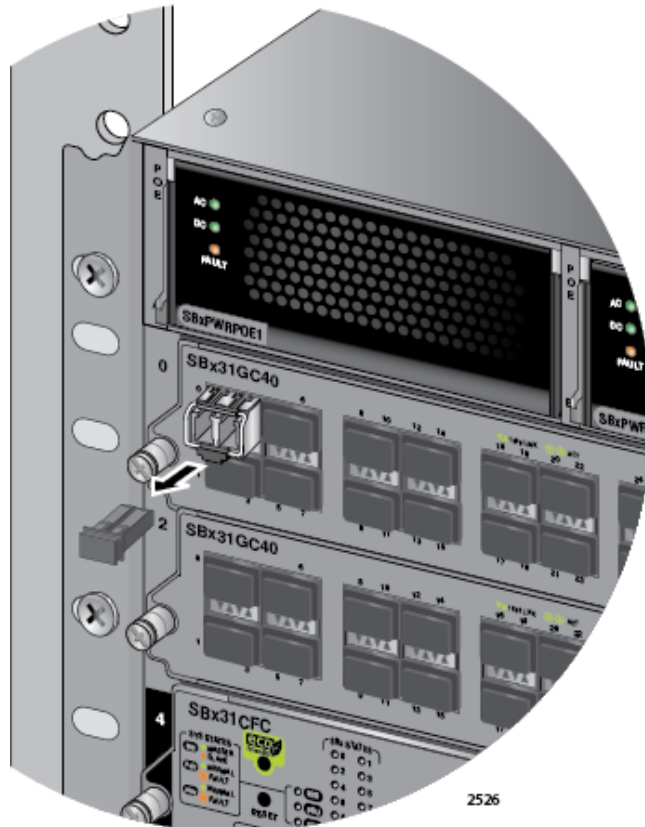

Figure 93. Removing the Dust Cover from an SFP or a CSFP Transceiver
5. Remove the protective cover from the ports on the transceiver, as shown in Figure 93.